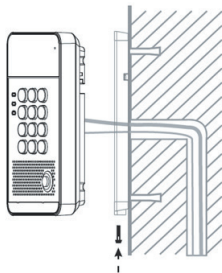

Figure 10
- B. Push the device into the wall-mounted hanging shell and tighten it with 1 screw as shown in Figure 10.